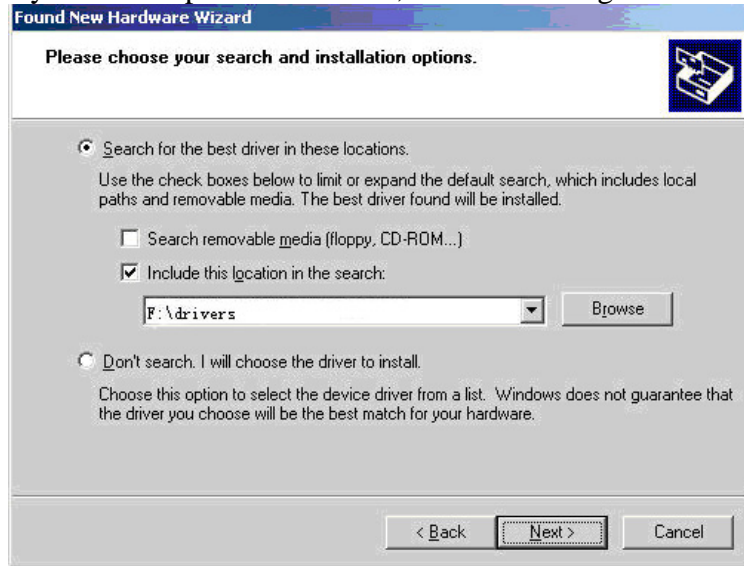

Figure A-3
3. Click on “Next” and the system will display the window as shown in Figure A-3. Check “Search for the best driver in this location” and Check “include this location in the search”, then Browse the file “TDS560USB_PLUS.INF “ in the installation CD, or in the folder
where you have copied the file into, as shown in Figure A-3.